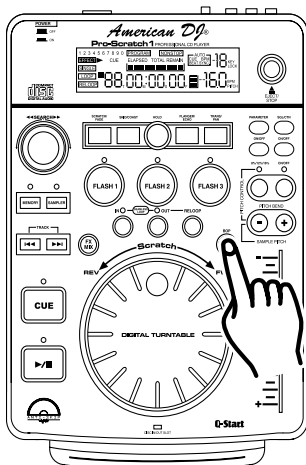

Figure 34
- 3) Now tap the **BOP BUTTON (20)**. It will produce a stutter effect as quickly as you tap on the **BOP BUTTON (20)**. See Figure 34.